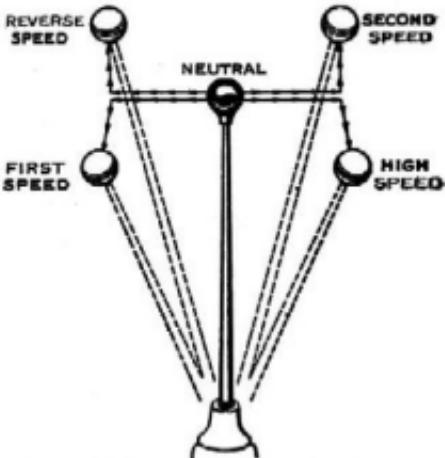

Fig. 1—Gear Shift Lever Position
- 1st—See that the gear shift lever is in neutral position (moves freely from right to left). (Fig. 1).
8th—Move the gear shift lever from the neutral position into FIRST or low speed position, by moving it first to the left as far as it will go, and then backward: (Fig. 1). During this operation avoid the left hand front or reverse position.
9th—After the car has gained sufficient momentum, prepare to change to SECOND speed. Before shifting from first to second speed, depress the clutch pedal, then move the gear shift lever (Fig. 1), forward to the neutral position, thence to the right as far as it will go, thence forward to second speed. After these operations have been performed with the clutch disengaged, slowly lighten the foot pressure on the clutch pedal until it is engaged and the car moves forward. Accelerate by pressing the accelerator pedal.